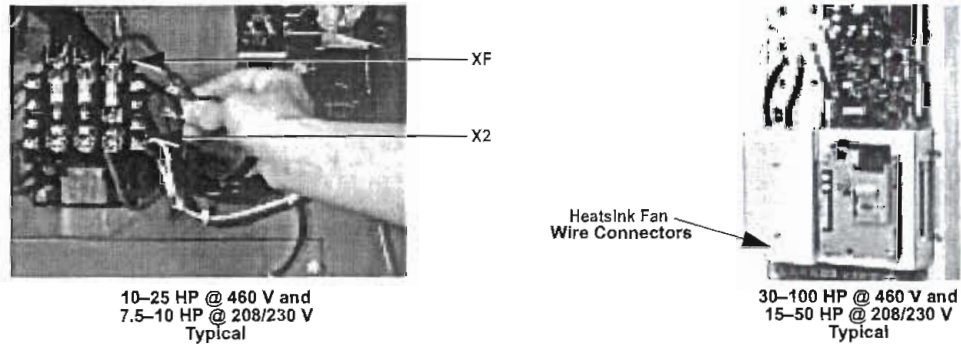

Figure 30: Remove the Fan Wiring
- For 10–25 hp controllers, disconnect the four fan wires connected to the control transformer. The 1/4" (6.35 mm) fast-on is connected to XF on the transformer fuse. The spade lug is connected to the X2 terminal on the transformer. See Figure 30. For 30–100 hp 460 V controllers and 20–50 hp 208/230 V controllers, disconnect the heatsink fan wire connectors.
2. For 10–25 hp 460 V controllers and 7.5–10 hp 208/230 V controllers, terminate the wire with the spade lug to X2 on the transformer. Torque the screw to 20–25 lb-in (2.3–2.8 N•m). Terminate the fast-on to XF on the transformer fuse. See Figure 30. Check all wiring connections for correct terminations. For 30–100 hp controllers at 460 V and 15–50 hp controllers at 208/230 V, plug the DC fan connectors to the power converter.